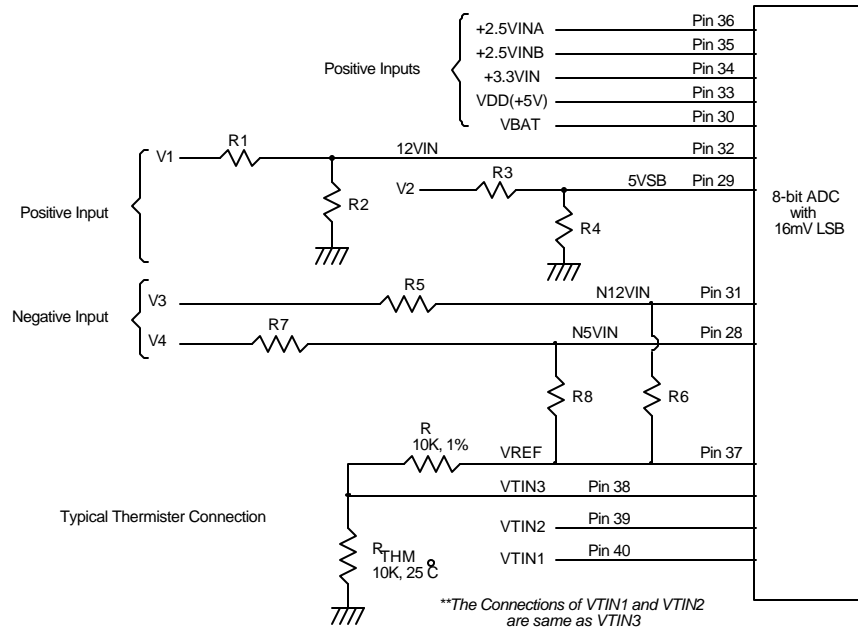

Figure 11.
The maximum input voltage of the analog pin is 4.096V because the 8-bit ADC has a 16mv LSB. Really, the application of the PC monitoring would most often be connected to power suppliers. The CPU V-core voltage ,+3.3V and battery voltage can directly connected to these analog inputs. The 5VSB and +12V inputs should be reduced a factor with external resistors so as to obtain the input range. As Figure 11 shows.
The negative voltage should be connected two series resistors and a positive voltage VREF (is equal to 3.6V). In the Figure 11, the voltage V3 and V4 are two negative voltage which they are -12V and -5V respectively. The voltage V3 is connected to two serial resistors then is connected to another terminal VREF which is positive voltage. So as that the voltage node N12VIN can be obtain a posedge voltage if the scales of the two serial resistors are carefully selected. It is recommended from Winbond that the scale of two serial resistors are R5=232K ohms and R6=56K ohm. The The input voltage of node -12VIN can be calculated by following equation.
The W83782D can connect three thermistors to measure three different environment temperature. The specification of thermistor should be considered to (1)  $\beta$  value is 3435K, (2) resistor value is 10K ohms at 25°C. In the Figure 11, the thermistor is connected by a serial resistor with 10K Ohms, then connect to VREF (Pin 37).